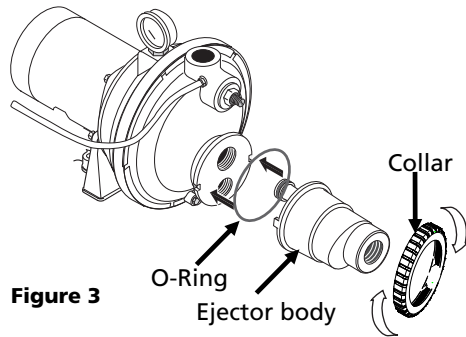

Figure 3
1. Place O-ring in circular groove on face of pump flange (see Figure 3).